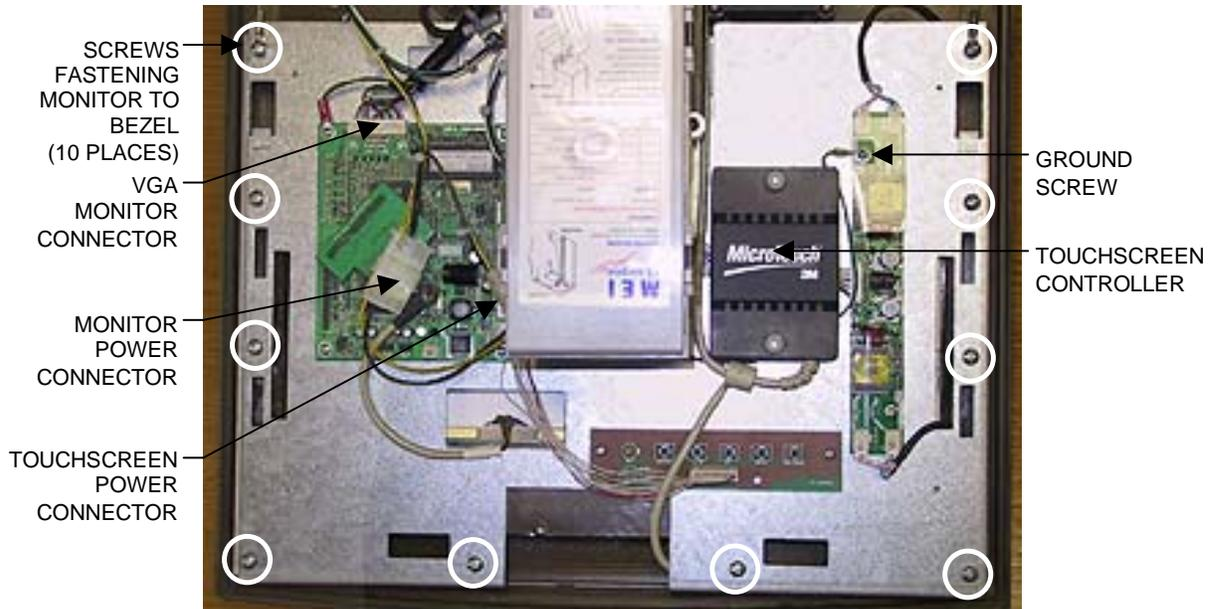

FIGURE 3 - FORCE VIBE - MONITOR REMOVAL
6. Replace the monitor assembly in the bezel, lining up the screw holes in the monitor with the holes in the bezel, then replace the 10 screws. See Figure 3.
7. Reconnect the VGA monitor cable connector and the screw fastening the cable to the monitor mounting plate, and also reconnect the ground screw. Then reconnect the monitor power connector. See Figure 3.
3. Locate the hard drive. It will either be mounted to the electronics box cover or against the back wall of the game. Remove the 3 screws or standoffs (see Figure 3) securing the hard drive mounting bracket to the cover or the game, then remove the hard drive assembly until you're able to disconnect the hard drive power connector and hard drive ribbon cable.
2. Connect the power connector and ribbon cable to the hard drive, then fasten the hard drive assembly to the electronics box cover or the game with the 3 screws or standoffs. See Figure 3.